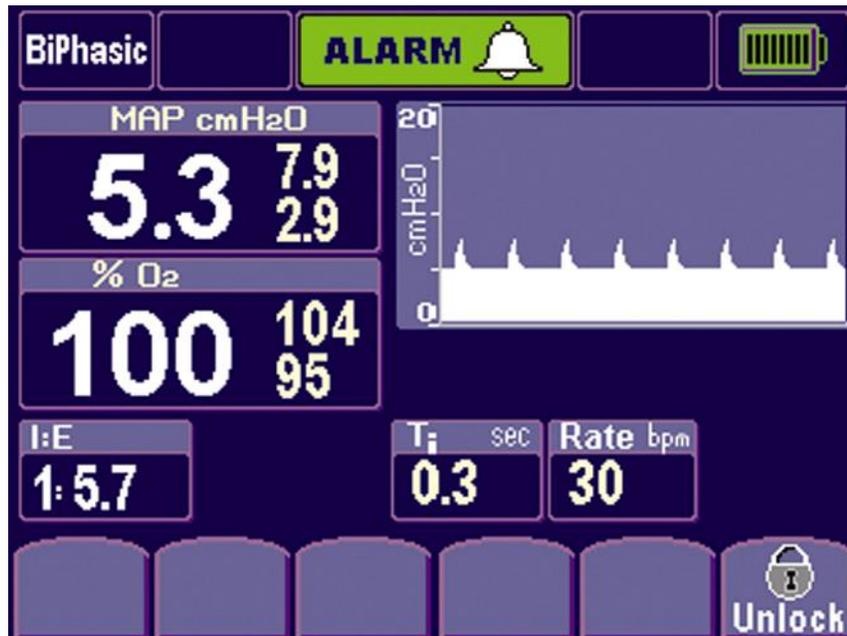

Figure 5
11. Verify that the measured value doesn't exceed 23% FiO2. If so, then troubleshoot for an oxygen leak. Check all the fittings and connections and repeat the Oxygen Leak Test (Figure 5).